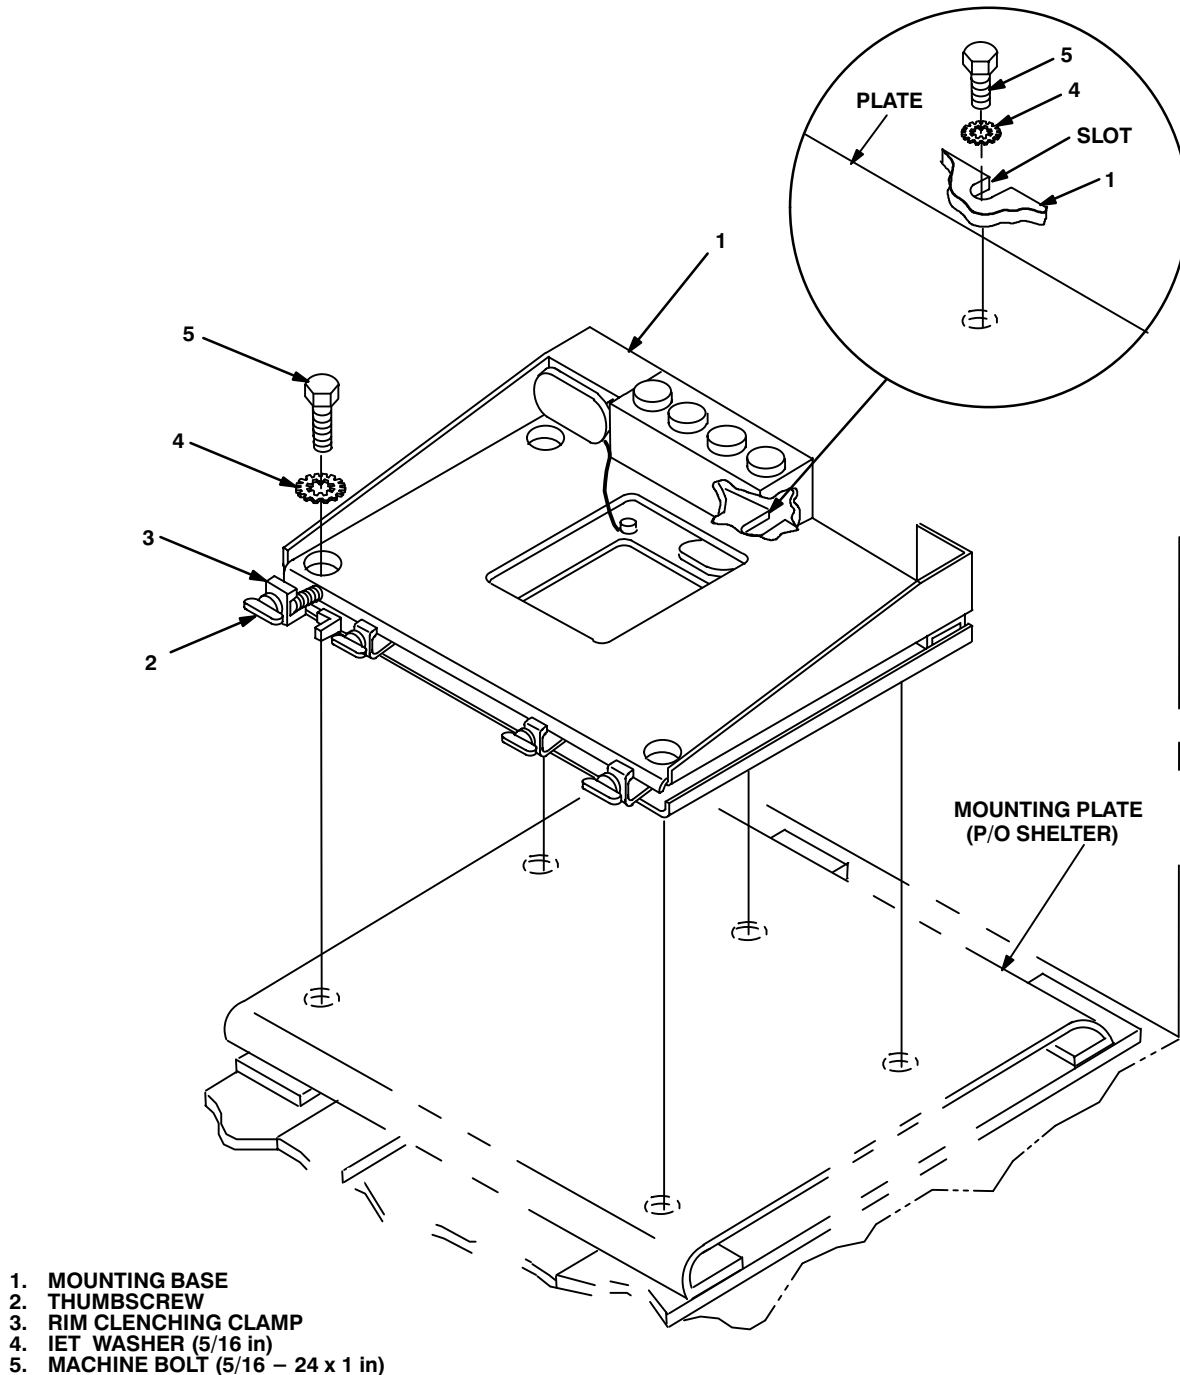

Figure 5-2. Mounting Base Installation: Front Curbside Wall
5.1 Installation of Mounting Base, Electrical Equipment MT-6352/VRC (mounting base). Remove and retain attaching bag of 5/16 in mounting hardware for installation. To insure good electrical grounding, any rust, corrosion or paint around mounting holes in mounting plate should be removed before installing the mounting base. See figure 5-2 and perform the following steps.